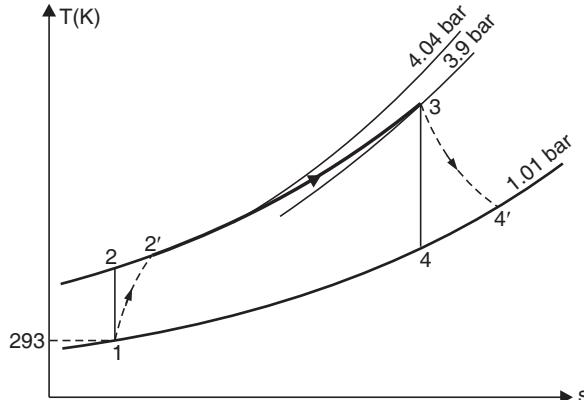

Fig. 4.62
**Solution. Simple Cycle.** Refer to Fig. 4.62.